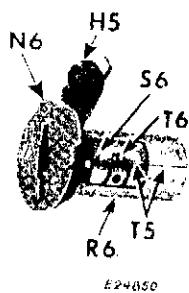

Fig. 134. Bearing
2. Assemble bushing **O6** to position lever **H5** and slide unit through eccentric **S6** and sleeve assembly **R6**, as shown in Fig. 134.
3. Attach tenon plate **N6** to sleeve, with groove **B7** facing sleeve assembly, as shown in Fig. 134. Fasten securely with the two screws **Q6**.
4. Set position lever **H5** at point where position stop **A7** engages groove **B7** on tenon plate (central position). Align timing marks **T5** on eccentric and bearing sleeve, as shown in Fig. 134 and tighten eccentric screw **T6**.